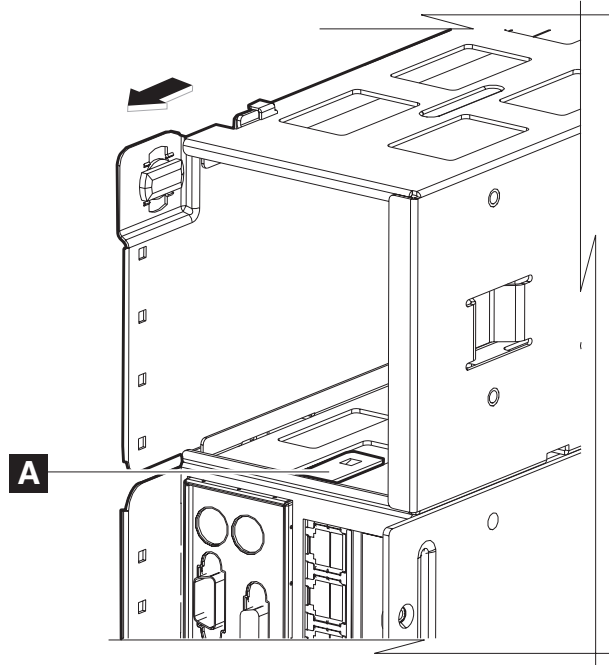

Figure 50. Prying the expansion housing latch upward
4. Locate the latch (**A** in Figure 50) inside of the power supply housing. Using a screwdriver, pry the latch upward.
Note: Be sure the latch (**A** in Figure 50) is engaged and the expansion housing bracket is securely fastened.